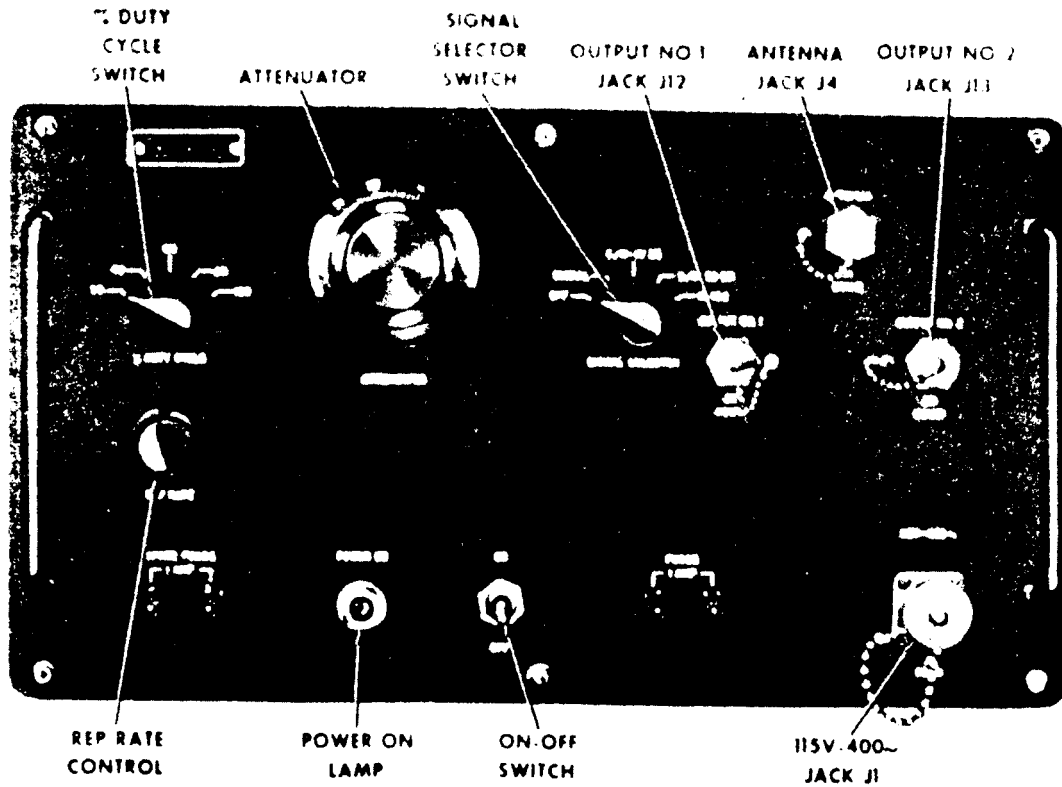

Figure 1. Radar target simulator 4935-967-9608 - front panel.
- a.** Refer to figure 1 for all controls and indicators unless otherwise indicated.